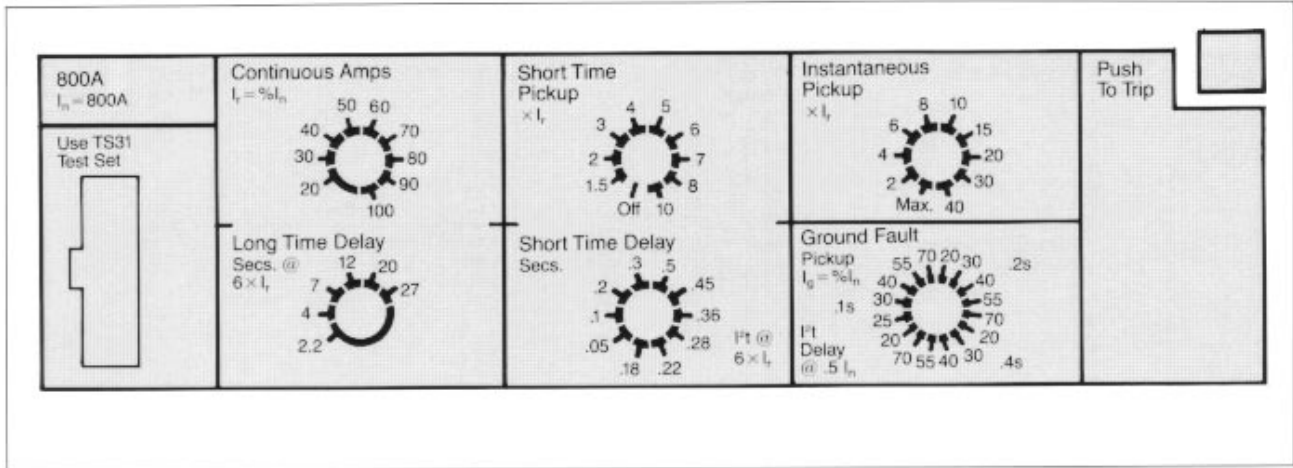

Figure 1
SMD/SND models with an adjustable long time delay switch allow for selection of long time delays of fixed time intervals at six times the continuous amps setting (1). See Figure 1 for the possible settings for this switch.